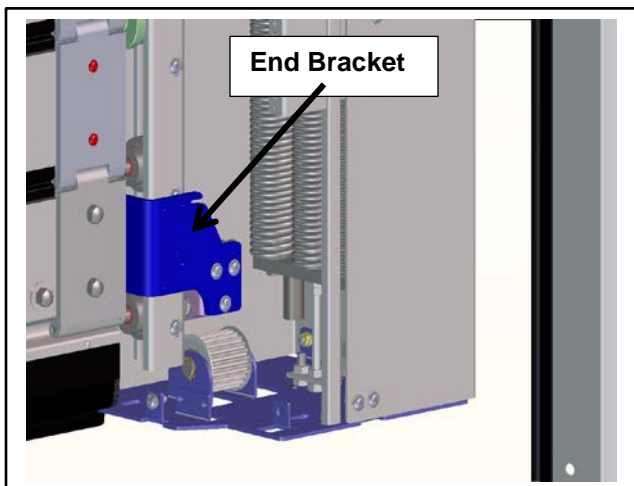

Figure 86
3. Mounted on the bottom corner of the door is an end bracket (one in each corner). This bracket is clamped around the two ends of the drive belt. (See Figure 86.)